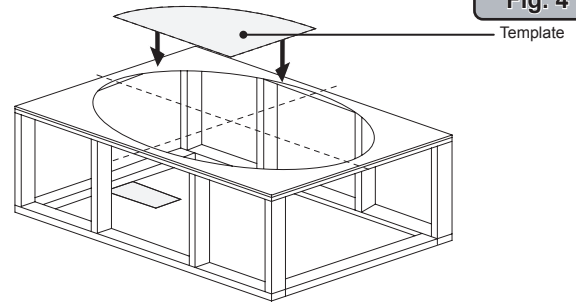

Fig. 4
1. Prepare the cutout hole for the bathtub using the provided template (Figure 4).
2. Position the bathtub template so that the desired undermount guidelines are aligned with the rim edge (Figure 4).